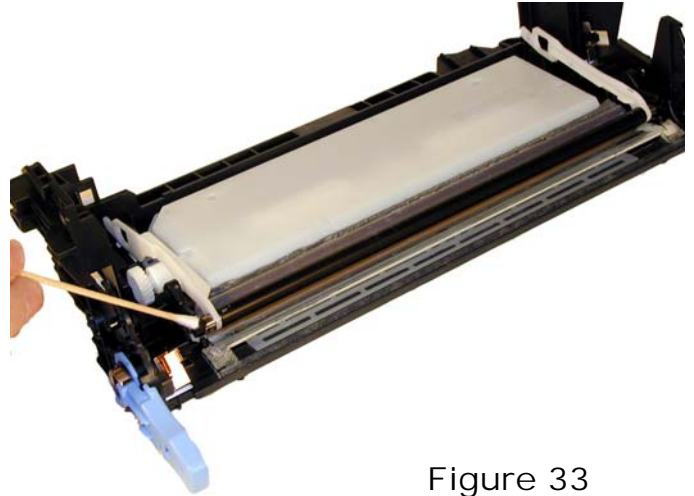

Figure 33
19) Clean off the old conductive grease from the PCR ends, and clean the PCR. Coat both ends of the PCR with new conductive grease. Place the white plastic holders on the shaft, and install the PCR and holders in the cartridge. Make sure the tails of the holders snap into place (If they come out easily, they are not in place). See **Figures 33, 34, & 35**